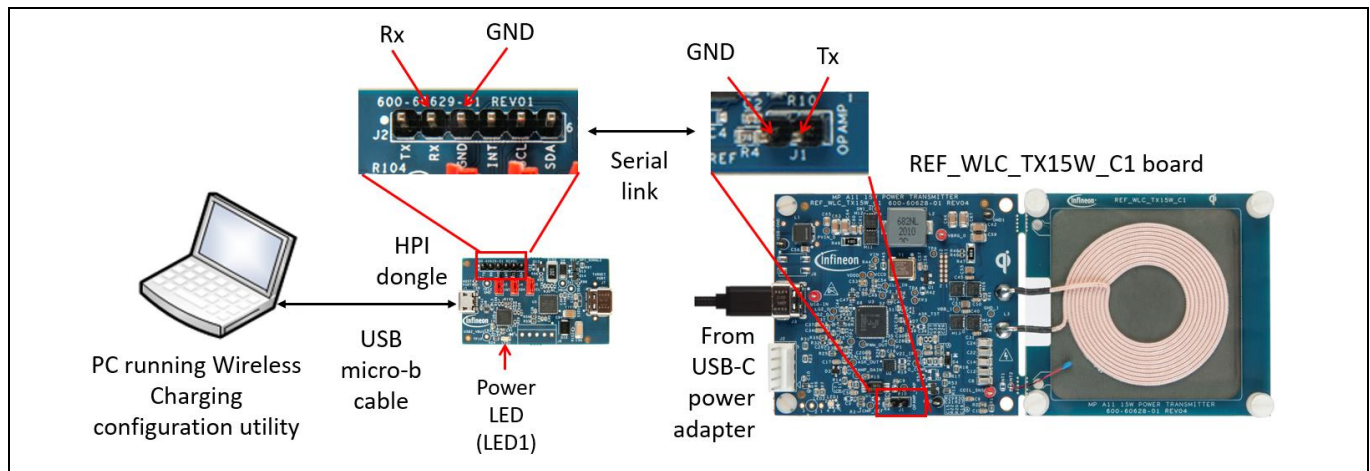

Figure 15 Set-up for capturing debug log
- b) Connect REF_WLC_TX15W_C1, HPI dongle, and PC as shown in **Figure 15**.